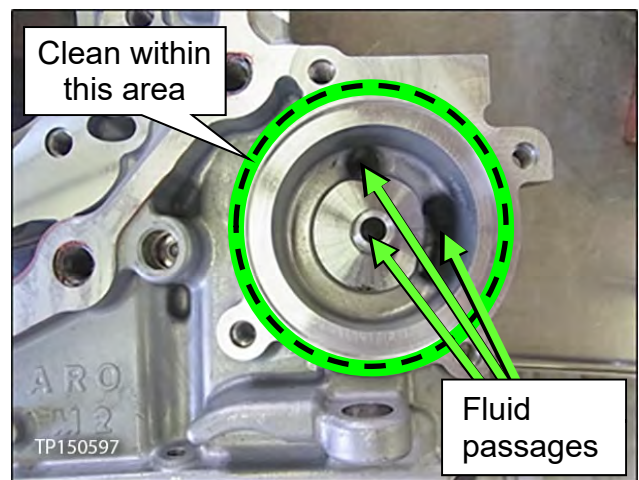

Figure 57
36. Clean the area where the CVT fluid filter fits (Figure 57).
37. Clean the fluid passages to and from the filter (Figure 57).